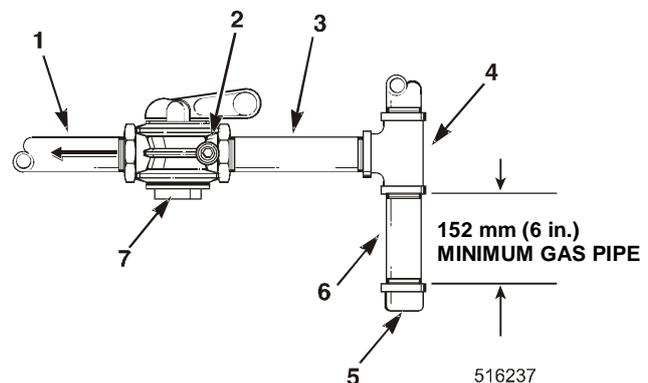

Fig.8.5. Dirt and vapour pipe trap installation
1. Turn off the main switch, close inlet shut off valve, (fig.8.5., pos.7)